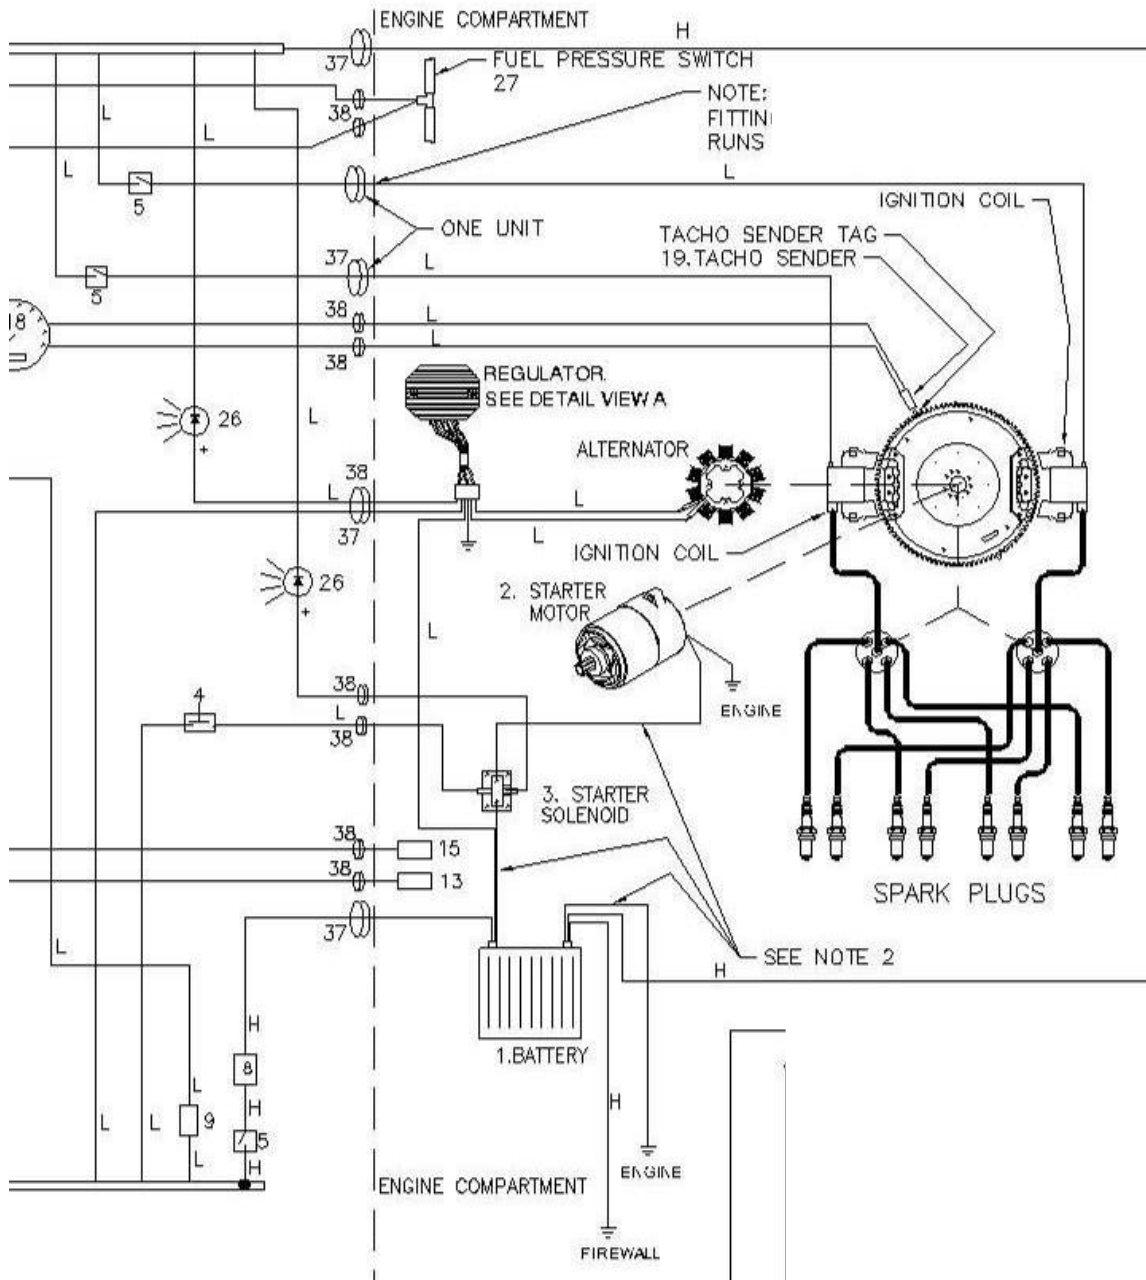

Figure 13: Example of engine wiring connections.
- The ignition is turned OFF by grounding the coils via the ignition switches. This is the reverse of most electrical systems: when the ignition switch is in the open (not connected) position the coil is LIVE and will fire. Wiring details are shown in Figure 13
- Wiring details are shown in Figure 13.
4.9 Radio Frequency (RF) Noise Reduction
- If the aircraft has a metallic firewall it can be used as a shield to block the majority of RF noise. To be most effective any wire that passes through the firewall should be fitted with a Ferrite Bead (also known as a Suppressor or RF Suppressor). Bundles of wires can have a single large Suppressor fitted rather than a Suppressor for each wire. The wiring diagram in Figure 13 shows suppressors in schematic form. These suppressors are readily available at local electronics stores.